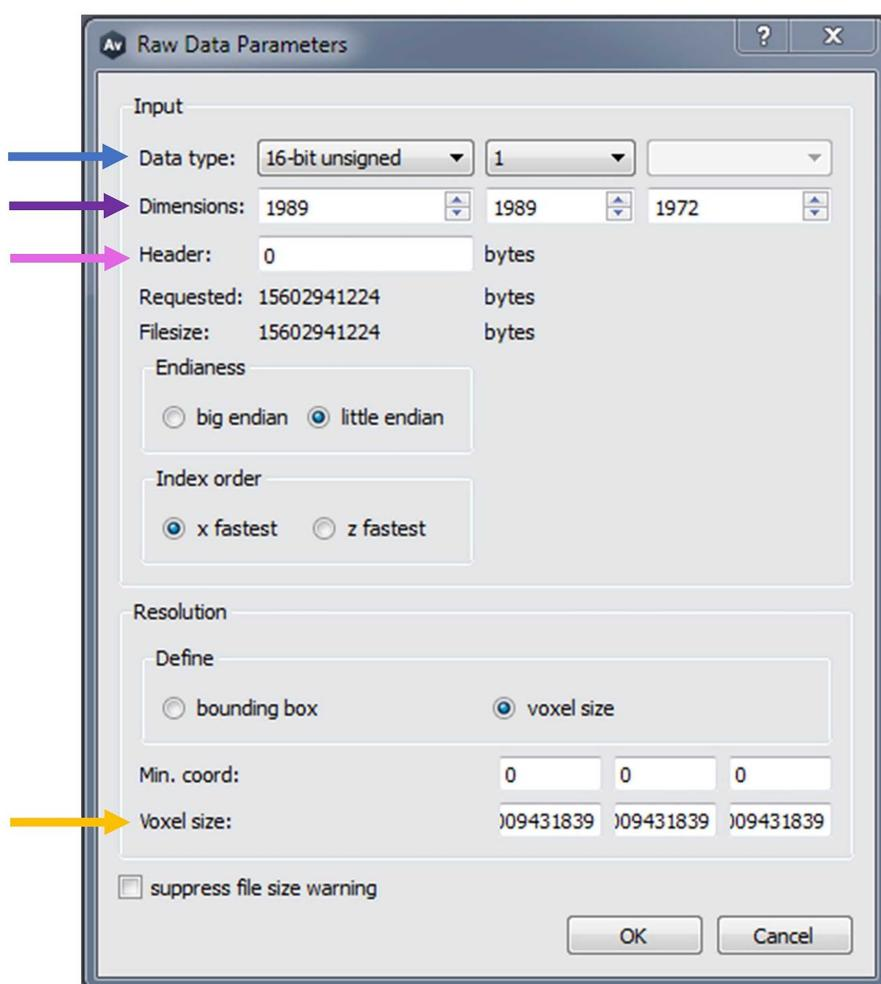

Fig. 8: 'Raw Data Parameters' window.
- 20.4 Indicate raw data parameters in 'Raw Data Parameters' window (Fig. 8).
- 20.5 Set 'Data type' according to scanner settings (usually '16-bit unsigned') (blue arrow in Fig. 8), leave the rest as the pre-set values.
- 20.7 To enter the x-, y-, and z-dimensions in the ‘Raw Data parameters’ window (violet arrow in Fig. 8) search for ‘ROI_SizeX=NUMBER’, ‘ROI_SizeY=NUMBER’ and ‘ROI_SizeZ=NUMBER’ respectively (violet arrow in Fig. 9).
Caution: ‘Header’ value (pink arrow in Fig. 8) in ‘Raw Data Parameters’ window will change to 0 if all dimensions are entered correctly.
- 20.8 To enter the voxel size value into ‘Raw Data parameters’ window (yellow arrow in Fig. 8), search for ‘VoxelSizeRec=NUMBER’ (yellow arrow in Fig. 9).